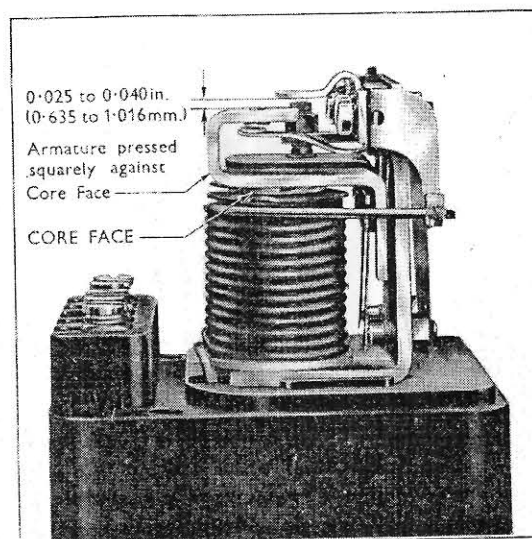

Fig. 9
4. Still holding the armature down against the core, bend the armature stop arm so that a gap of 0.025 to 0.040 in. (0.635 to 1.016 mm.) exists between it and the armature tongue (see Fig. 9).